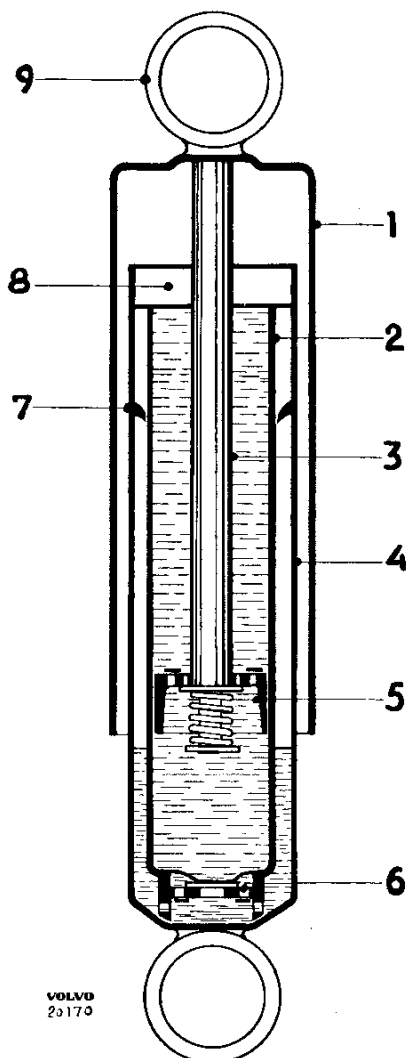

Fig. 13. Shock absorber
The design of the shock absorbers is shown in Fig. 13. The outer cylinder (1) acts only as a dust and dirt cover. The two other cylinders (2) and (4) are concentrically arranged with one slid into the other. The inner cylinder (2) is the actual working cylinder and has a valve (6) fitted in its lower end. A piston (5) with various channels controlled by valves operates inside the inner cylinder. The piston is attached to a piston rod (3), the opposite end of which is in the form of an eyelet (9) for attachment to the frame. A similar eyelet is attached to the cylinder (4) at the opposite end of the shock absorber. The space between the cylinders (2) and (4) serves as a reservoir and is only partially filled with liquid. The inner cylinder (2) is completely filled with liquid on both sides of the piston (5). The cover (8) functions as a seal and also as a guide for the piston rod (3). The ring (7) prevents splashing in the liquid.